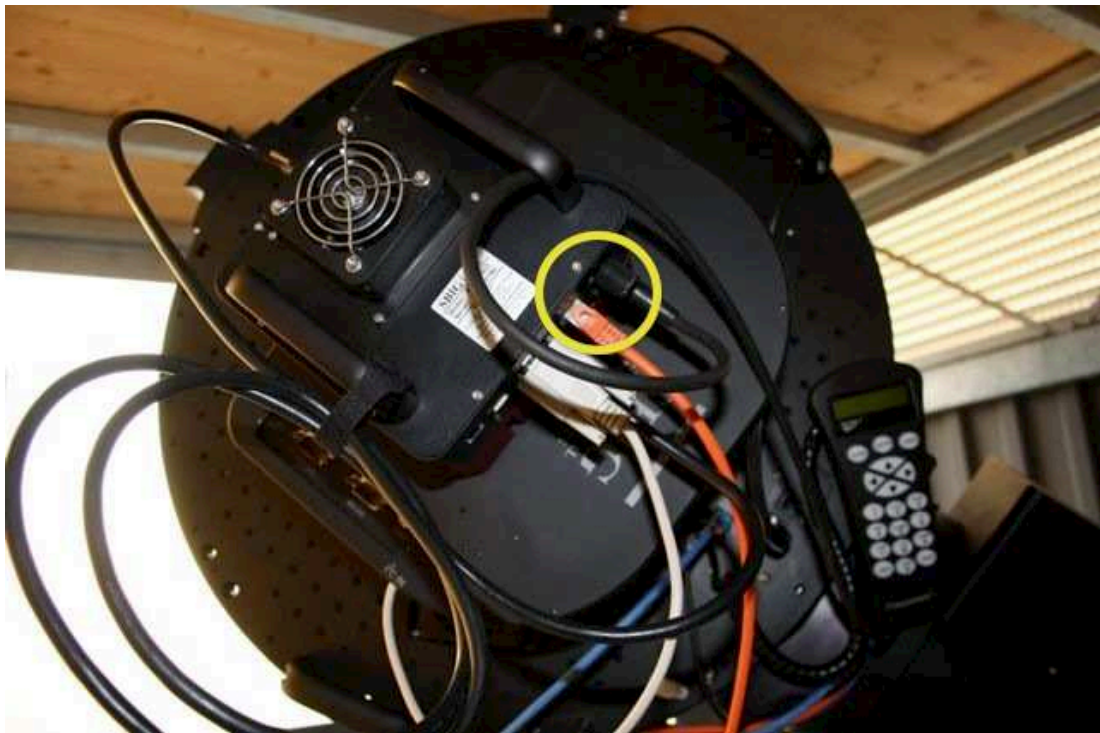

Figure 48: Attach the camera power cable and the USB cable.
Make sure the SBIG power cable and the USB cable are unplugged (see Fig. 48)!
- Plugin the SBIG power cable and the USB cable (Fig. 48)